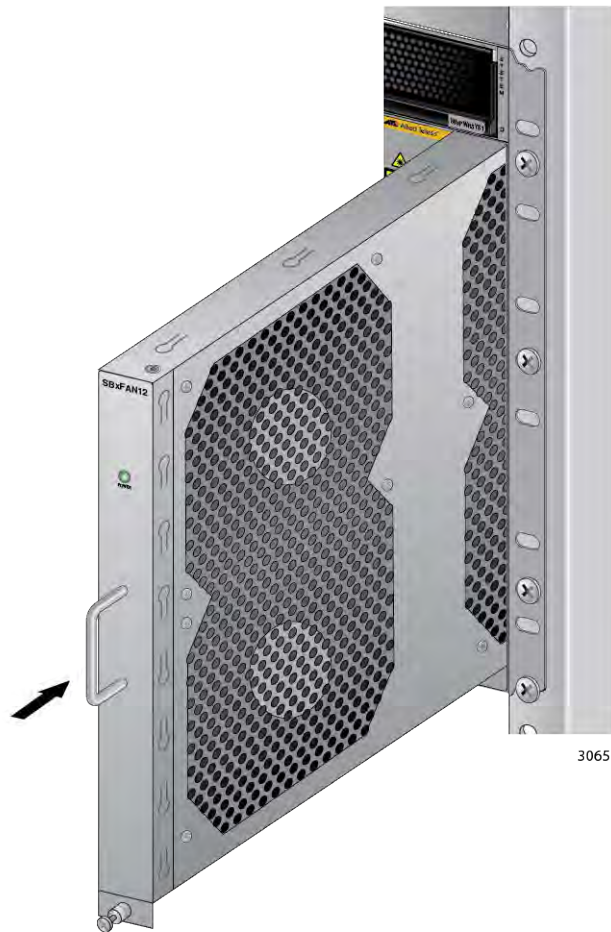

Figure 189. Installing a New AT-SBxFAN12 Fan Module
1. Orient the new module with the LED and module name on top and carefully slide the new module into the slot in the chassis. Refer to Figure 189 on page 301.